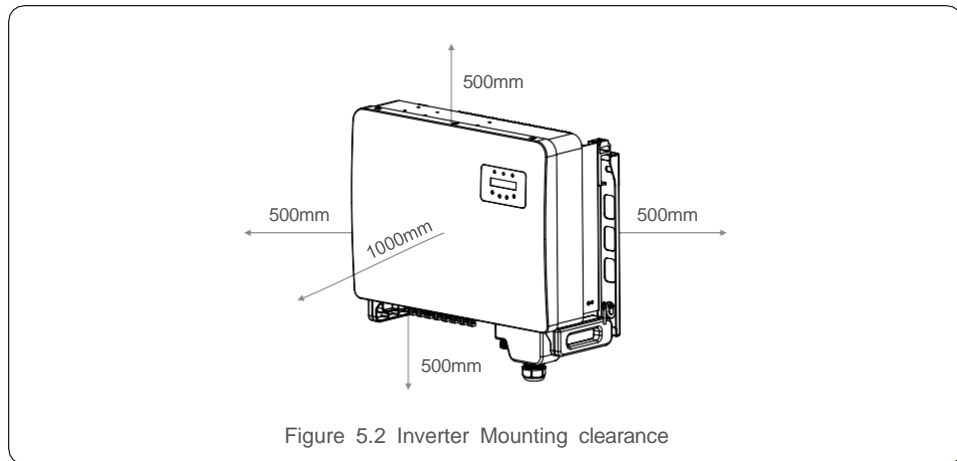

Figure 5.2 Inverter Mounting clearance
- For multiple inverters are installed on site, a minimum clearance of 500mm, should be kept between each inverter and any other mounted equipment. The bottom of the inverter must be at least 500mm from the ground or floor. See figure 5.2.